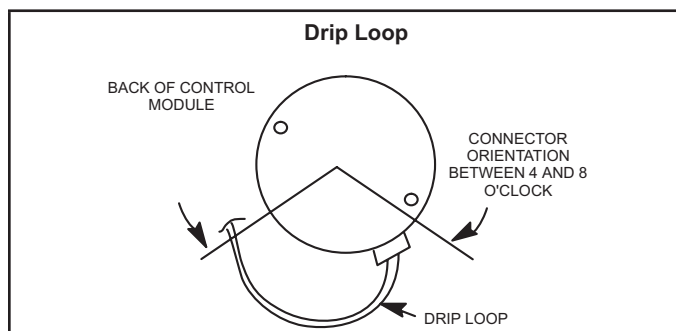

FIGURE 20
- 5 - The electrical connectors of the motor should be facing down to form a drip loop (FIGURE 20) This will direct moisture away from the motor and its electric connections on the motor.